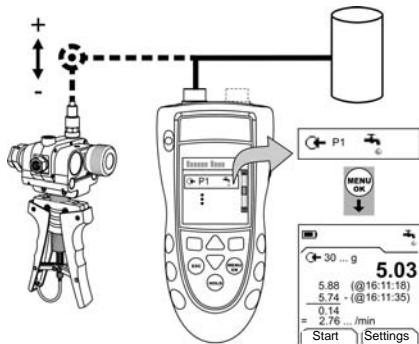

Figure 3: Example configuration - Leak test
1. Connect the instrument (Figure 3) and, if necessary, adjust the Set Up (Table 1).